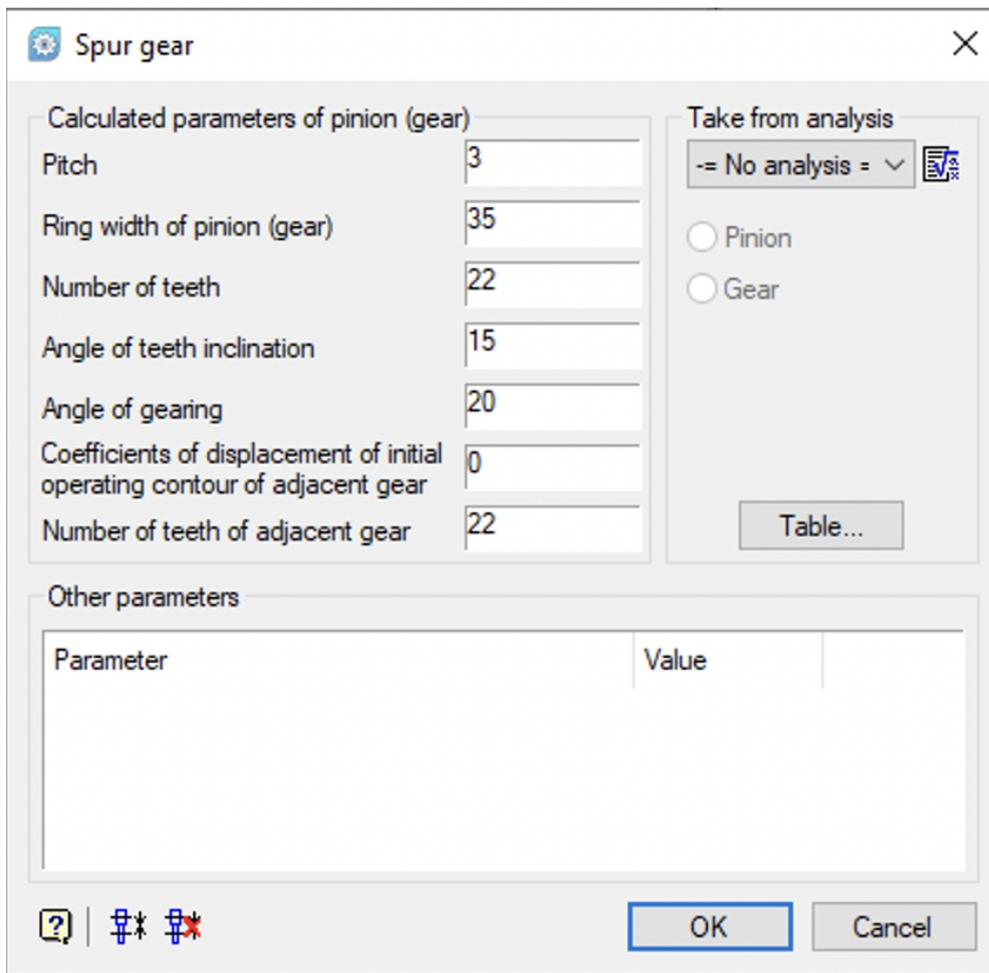

Fig. 13. The *Spur gear* dialog
2.3.4. You will see the gear parameters in the **Spur gear** dialog (Fig. 13.).